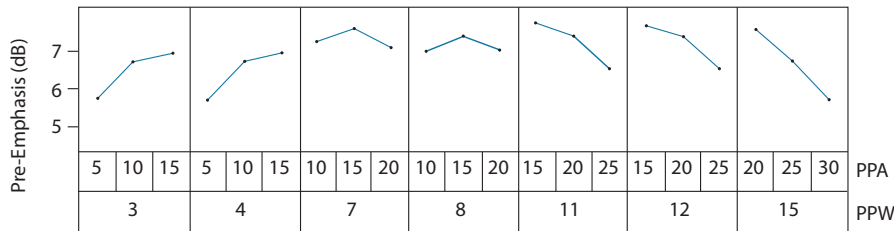
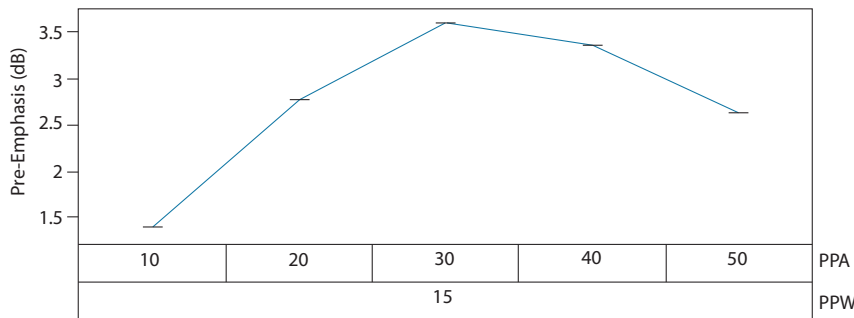

Figure 4-10: Pre-emphasis settings for VCCO_<n> = 1.2V and DS = 7 (swing = 200mVpp)
Figure 4-17: Pre-emphasis settings for VCCO__n = 2.5V and DS = 35 (swing = 800mVpp)
The only requirement of the trace driver pre-emphasis settings is to minimize ISI introduced by a lossy link and maximize the eye opening at the receiver. The Pre-emphasis compensation of the GS3241 output channel is a two-step process. The first step is to use the settings from Figure 4-10 to Figure 4-17 that best match the insertion loss of the link in the application, while the second step is a fine optimization procedure.
1. Pre-emphasis Amplitude (PPA) Optimization: Set the PPA and PPW to the values obtained from the graph selected out of Figure 4-10 to Figure 4-17, and then measure the downstream jitter. While keeping PPW constant, increment the PPA by 'a'. If the jitter is lower after the first increment, continue to increment by 'a' until the jitter begins increasing or a setting of 50 is reached. If there was a setting which resulted in a lower jitter measurement than the initial setting, that is the Optimized Pre-emphasis Amplitude setting: PPA_{Optimal}, and the PPA optimization procedure is complete.
If incrementing the PPA or decrementing the PPA did not result in a setting with lower jitter, then the initial setting obtained from the graph selected out of Figure 4-10 to Figure 4-17 is the PPA optimized Pre-emphasis Amplitude setting: $PPA_{Optimal}$.
2. The second step is to set the PPA to the optimized setting $PPA_{Optimal}$ determined in step 1 and PPW to the values obtained from the graph selected out of Figure 4-10 to Figure 4-17, then measure the downstream jitter. While keeping PPA constant, increment the PPW by 'w'. If the jitter is lower after the first increment, continue to increment by 'w' until the jitter begins increasing or a setting of 15 is reached. If there was a setting which resulted in a lower jitter measurement than the initial setting, that is the Optimized Pre-emphasis Width setting: $PPW_{Optimal}$, and the optimization procedure is complete.
If incrementing the PPW or decrementing the PPW did not result in a setting with lower jitter, then the initial setting value obtained from the graph selected out of Figure 4-10 to Figure 4-17 is the optimized Pre-emphasis Width setting: $PPW_{Optimal}$.